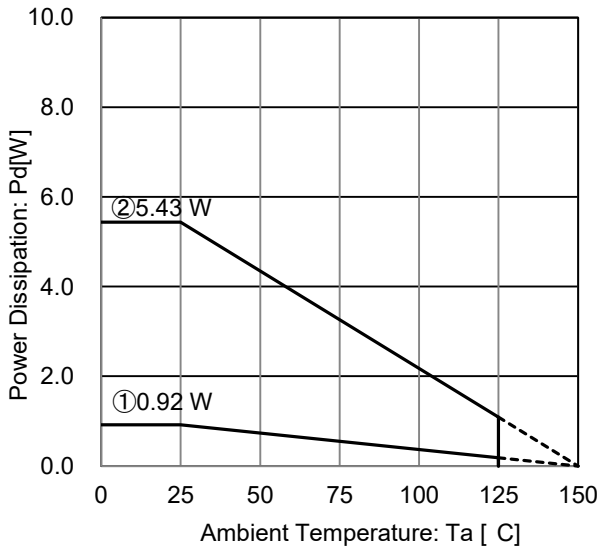

Figure 26. TO252-3 Package Data
At $T_a=125^{\circ}\text{C}$ with Figure 26 ② condition, the calculation shows that ca 105mA of output current is possible at 10.2V potential difference across input and output.
At $T_a=125^{\circ}\text{C}$ with Figure 26 ② condition, the calculation shows that ca 127mA of output current is possible at 8.5V potential difference across input and output.